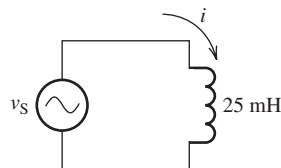

FIGURE P4.33 Inductor circuit.
4.33 (B) Given the circuit in Figure P4.33, find the current, i , as a function of time. (Note: v_s is a sinusoid.)